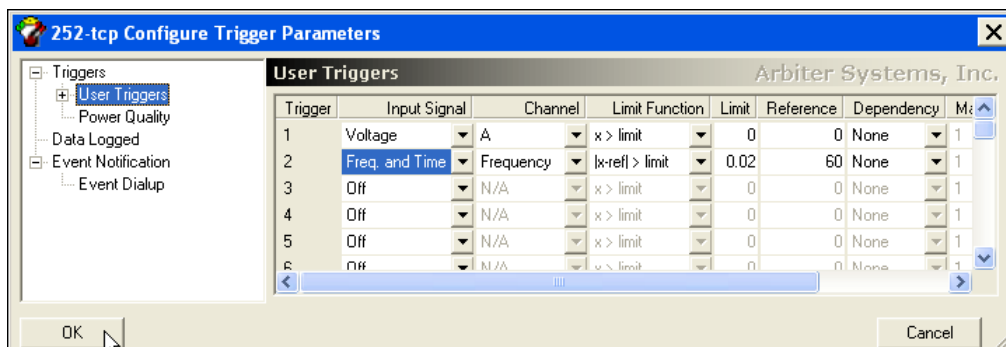

Figure 8.1: DSP Trigger Setup Screen
1. To configure any User (or DSP) Trigger, click the plus sign to the left of “Triggers”, then select User Triggers. This should expand the User Triggers configuration window, shown in Figure 8.1.